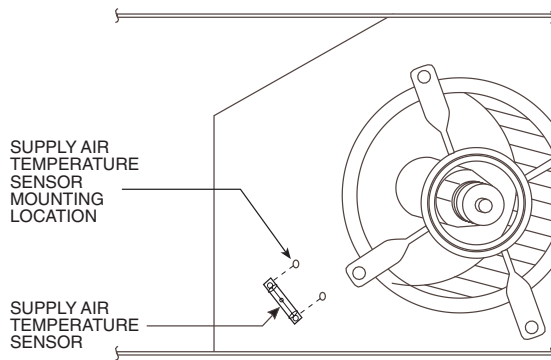

Fig. 30 — Supply-Air Sensor Placement
11. Mount the supply-air temperature sensor to the lower left portion of the indoor blower housing with the two (2) screws provided (see Fig. 30). Connect the violet and pink wires to the corresponding connections on the supply-air temperature sensor. Replace the indoor fan motor access panel.